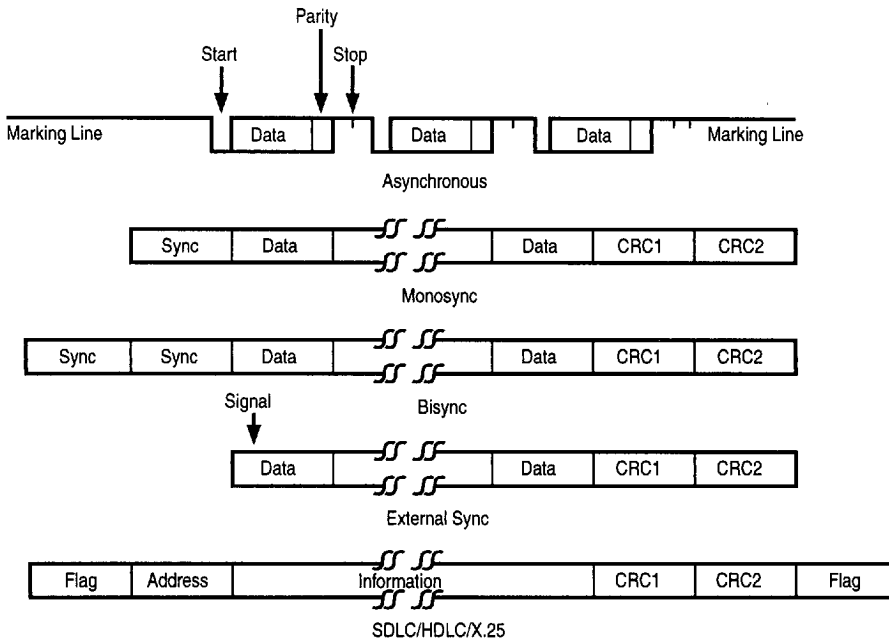

Figure 3. Some SCC Protocols
**Datacommunications Capabilities.** The SCC provides two independent full-duplex channels, programmable for use in any common asynchronous or synchronous datacommunication protocol. The following description and Figure 3 briefly detail these protocols.